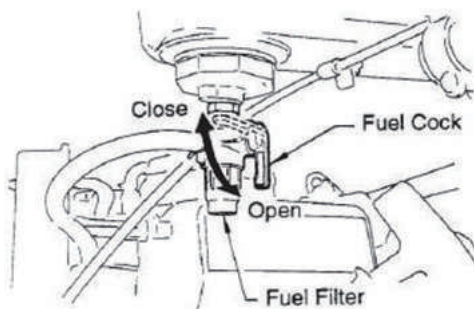

Fig 5
1. Open the fuel shut-off valve by moving the fuel cock lever to the **OPEN** position (Fig 5) then set the engine start/stop switch (Fig 5) to the **START** position.
2. Close the fuel shut-off valve by moving the fuel cock lever to the CLOSED position. See Figure 5.